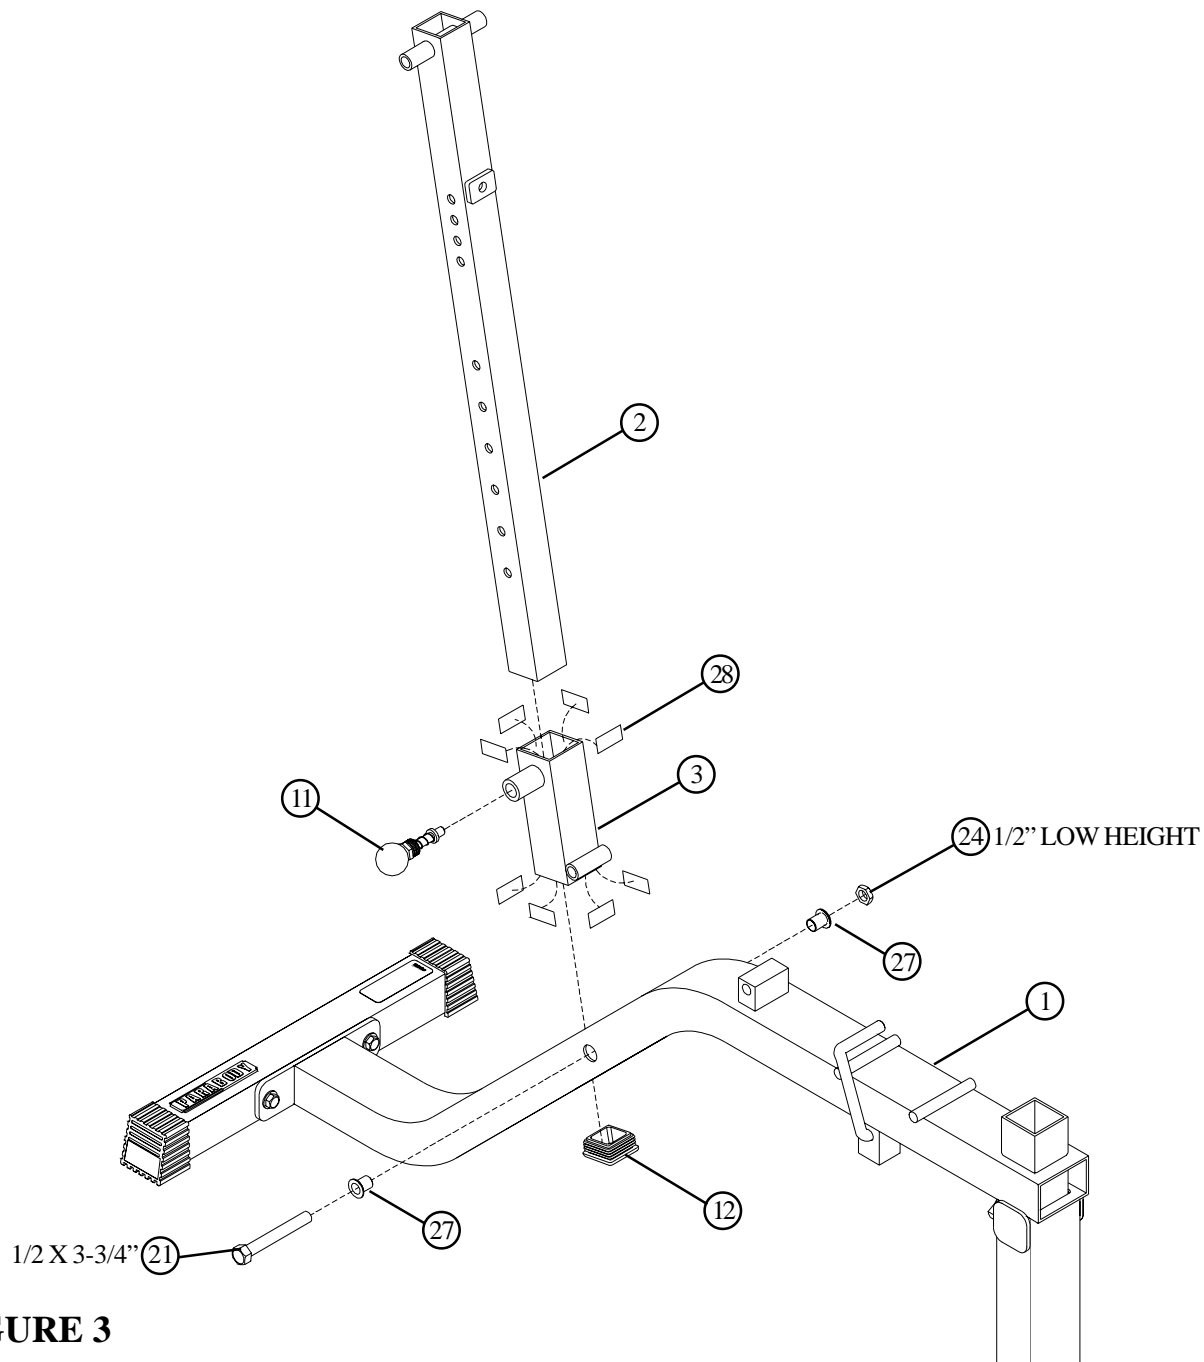

FIGURE 3
- **SECURELY** assemble one SPRING PIN ASSEMBLY (11) to the spring pin barrel on the ADJUSTABLE SLEEVE (3). See FIGURE 3.
- Attach eight 3/4 X 1-1/2" GLIDES (28) to the inside of the ADJUSTABLE SLEEVE (3) as shown in FIGURE 3 using the following steps:
- Thoroughly clean all surfaces where the 3/4 X 1-1/2" GLIDES (28) are to be attached.
- Remove the 3/4 X 1-1/2" GLIDES (28) from the paper backing and firmly apply them to all shown surfaces.
- Assemble the ADJUSTABLE SLEEVE (3) to the BENCH FRAME (1) using one 1/2 X 3-3/4" BOLT (21), two 1/2" FLANGE SPACERS (27), and one 1/2" LOW HEIGHT LOCK NUT (24) as shown in FIGURE 3.
- Pull back on the SPRING PIN (11) and **CAREFULLY** insert the ADJUSTABLE SLIDE (2) into the ADJUSTABLE SLEEVE (3) as shown in FIGURE 3.
- Insert one 1-3/4" END CAP (12) into the end of the ADJUSTABLE SLIDE (2) as shown in FIGURE 3.